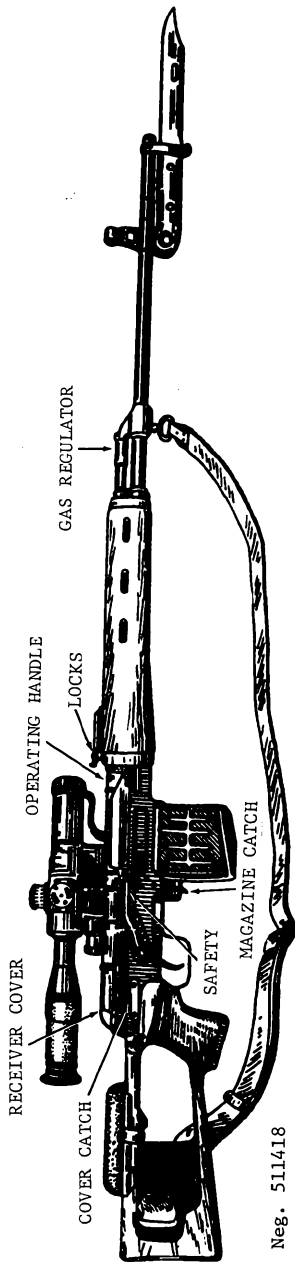
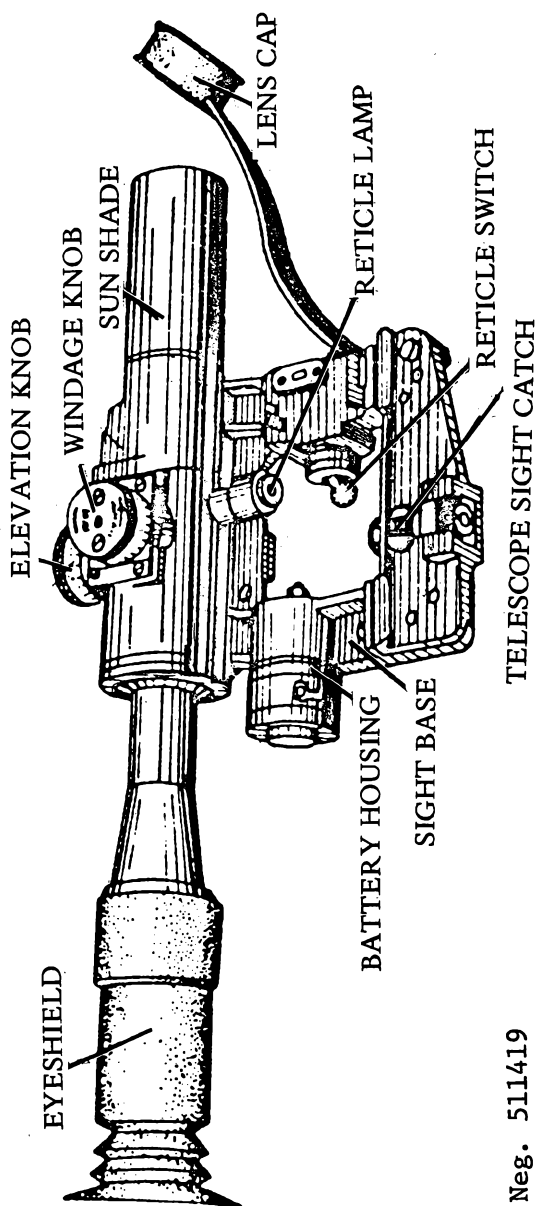
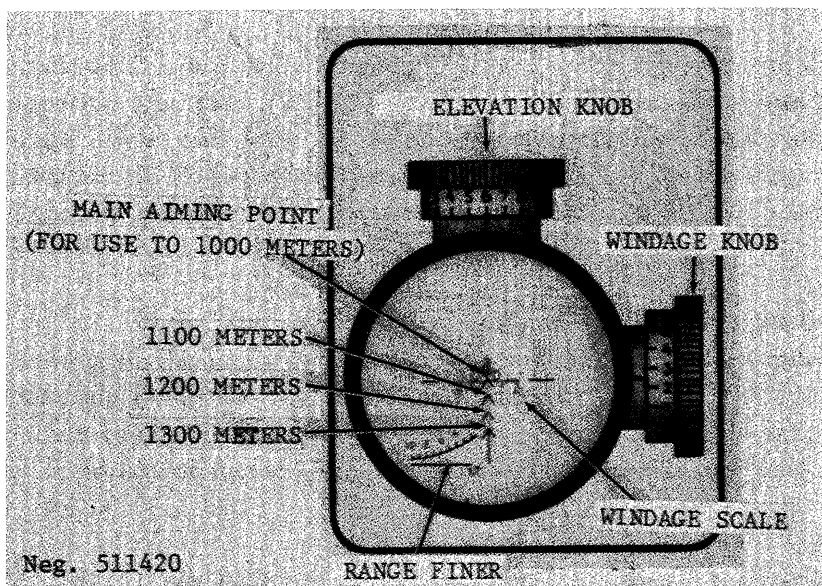

Figure 119. Dragunov Sniper's Rifle (SVD).
Figure 120. PSO-1 telescopic sight.
Figure 121. PSO-1 reticle pattern.
a. The Dragunov sniper's rifle (fig 119) is one of the newest Soviet small arms and has replaced the older M1891/30 sniper's rifle (subsec E) in most of the Warsaw Pact Armies. The Dragunov, also known as the SVD, is a gas-operated, magazine-fed, semiautomatic weapon fitted with a PSO-1 telescopic sight. The PSO-1 telescope can be used for conventional aiming during daylight and can also be used to detect and fire upon active infrared sources at night. Conventional open sights are also provided for emergency use. The Warsaw Pact AKM bayonet-wirecutters (fig 89) can be affixed to the SVD.
a. Remove the magazine by pressing the magazine catch (fig 119) toward the magazine and rocking the magazine forward. Place a cartridge on the magazine platform and press it down until it rolls under one of the magazine lips. Repeat until the magazine
is full. Insure that the rim of each cartridge, as it is loaded into the magazine, is in front of the rim of the preceeding cartridge. Insert the loaded magazine into the magazine well so that the top front edge engages, then rock the magazine rearward until the magazine catch (fig 119) snaps into place and retains the magazine.
b. Press the safety (fig 119) down, if necessary, then pull the operating handle (fig 119) fully rearward and release it.
c. If the open sights are to be used, set the rear sight by pressing in the locks on the rear sight slide (fig 119), then move the slide along the rear sight leaf. The front edge of the slide should be aligned with the numeral that corresponds to the range in hundreds of meters. Use the same sight picture as for firing a pistol.
d. If the PSO-1 telescopic sight (fig 120) is used, rotate the elevation knob until the figure that corresponds to the range in hundreds of meters is aligned with its index. The range can be fairly accurately determined by use of the range finder located in the lower left of the telescope reticle (fig 121). This rangefinder is graduated to the height of a man (5'7"). Look through the telescope and place the horizontal line at the bottom line of the target. Move the telescope until the upper (curved) line just touches the top of the target's head. The number indicates the
range in hundreds of meters; if the target falls between numbers, the remaining distance then must be estimated. When the range is determined and set into the elevation knob, use the point of the top chevron on the reticle as an aiming point. The three lower chevrons are used for firing at 1100, 1200, and 1300 meters with the elevation knob set at 10. The horizontal scale extending out from the sides of the top chevron are used for hasty wind corrections; deliberate changes are made by rotating the windage knob (fig 120).
e. For firing when the light is dim, illuminate the reticle by turning on the switch in the telescopic sight mount (fig 120). If active infrared light sources are believed to be in use by the opponents, set the range drum (fig 120) at "4" and switch the infrared detector into place. Scan the area to the front; if any active infrared light sources are in use they will appear as
g. The regulator (fig 119) is normally set at "1" to obtain best functioning. If the SVD becomes sluggish, slip the rim of a cartridge case into the lugs on the side of the regulator and rotate the regulator to "2". Clean the rifle as soon as possible and reset the regulator back to "1".
a. Clear the SVD, but do not set the safety to safe or replace the magazine. Release the telescope sight catch (fig 120) and pull the telescope off the rear. Place the telescope in its carrying case. Remove the cheek pad (fig 119).
b. Press the receiver cover catch (fig 119) upward and pull the receiver cover and driving spring upward and off the receiver. Pull the operating handle (fig 119) to the rear, then lift the bolt carrier and bolt out of the rifle. Push the bolt into the bolt carrier until it can be rotated so that the operating lug on the bolt is free of its cam recess in the bolt carrier. Pull the bolt out of the carrier.
d. Press the handguard catch (fig 119) in until it is free of the handguard ferrule, then rotate the catch to the right. Push the ferrule (fig 119) forward; then pull the handguard down and out to remove them. It may be necessary to pry tight handguards off the barrel.
g. To reassemble the SVD, first insert the operating rod and its spring in its recess in the rear sight base (fig 119). Press the rod to one side and slip the piston onto the gas block, then insert the operating rod into the piston.
h. Slip the rear end of the handguards into their seats, swing the front ends together and push the ferrule (fig 119) rearward to hold the handguards in place. Rotate the ferrule until the handguard catch snaps into place.
l. Replace the cheek pad and, while holding the telescope sight catch (fig 120), slide the sight onto its seat from the rear. Replace the magazine, press the trigger and move the safety upward.
a. The main accessory for the SVD is its PSO-1 telescope. This scope has an illuminated reticle powered by a small dry cell. The battery housing is located at the bottom rear of the telescopic sight mount (fig 120). To change batteries, press in and rotate the battery housing counterclockwise. Remove the old battery and replace with the same type. The reticle lamp can be replaced by unscrewing its housing (fig 120) and removing the bulb. The reticle light is turned on or off by its switch (fig 120). The lens cap should always be in place except when actually using the telescope for aiming.